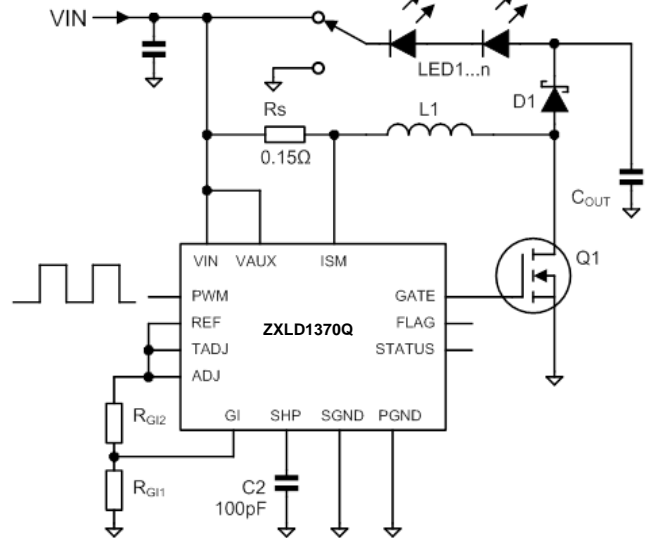

Figure 23 Boost and Buck-Boost Configuration
b) Boost and Buck-Boost Modes – the most simple boost/buck-boost circuit shown in Figure 23
The average current in the LED, I_{LED} , is always less than I_{RS} . The feedback control loop adjusts the switch duty cycle, D, to achieve a set point at the sense resistor. This controls I_{RS} . During the interval t_{OFF} , the coil current flows through D1 and the LED load. During t_{ON} , the coil current flows through Q1, not the LEDs. Therefore the set point is modified by D using a gating function to control I_{LED} indirectly. In order to compensate internally for the effect of the gating function, a control factor, GI_ADJ is used. GI_ADJ is set by a pair of external resistors, R_{GI1} and R_{GI2} (see Figure 23). This allows the sense voltage to be adjusted to an optimum level for power efficiency without significant error in the LED controlled current.